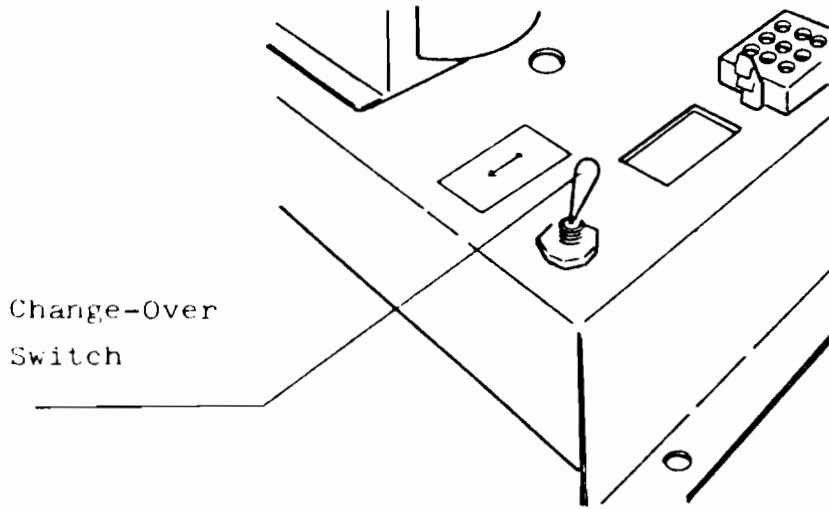

Fig. 6
4. Adjustments of Power Supply (See Fig. 6)